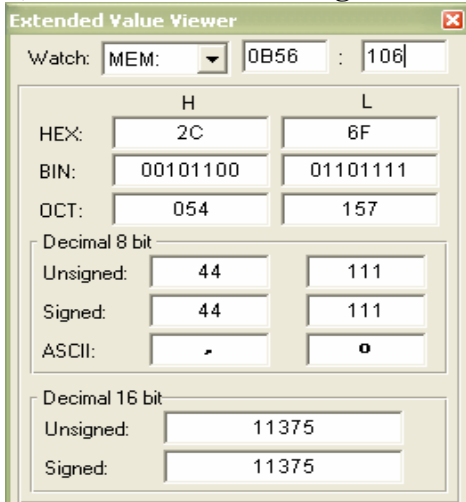

Figure 16
2) Write the address "segment: offset" 0B56:0106 (Figure 16)